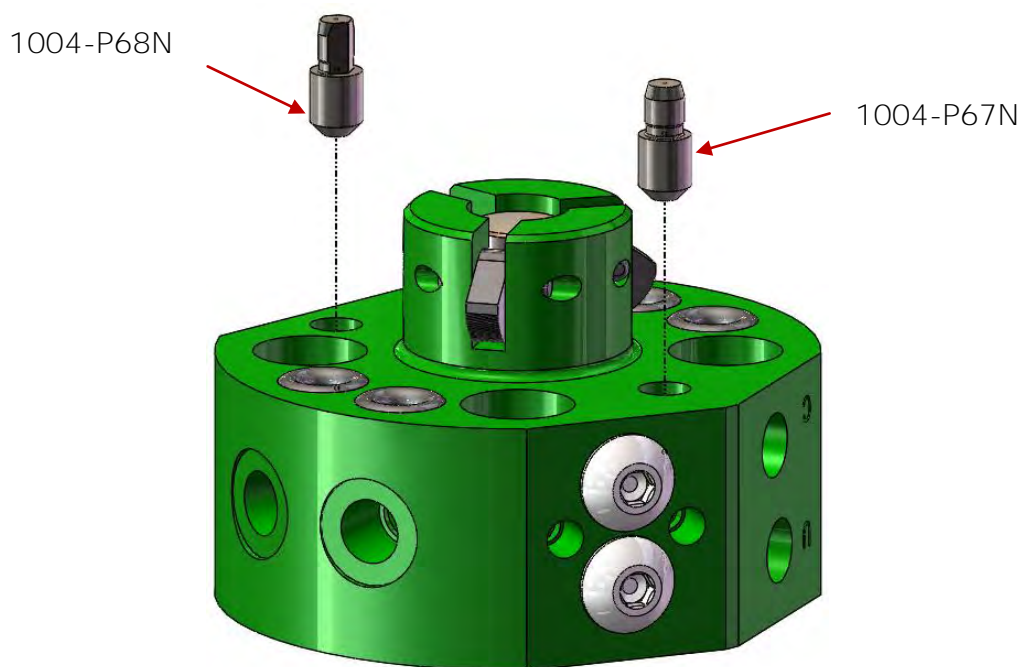

Figure 10.1.1-1. Locating/Alignment Pin Replacement
4. Press the new Locating Pin(s) into the appropriate mounting hole (Figure 10.1.1-1) until the pin is fully seated at the bottom of the hole.